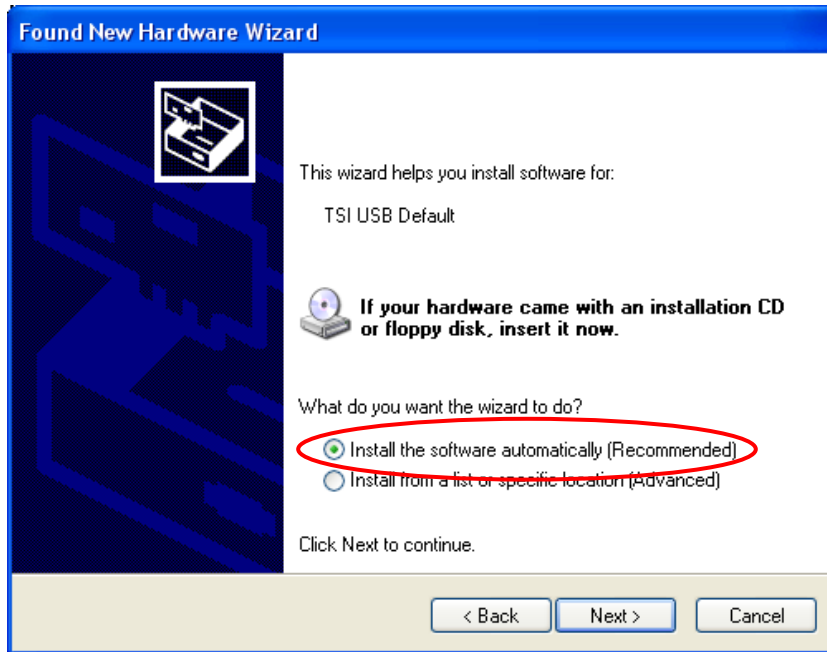

Figure 14
5. Select **Install the software automatically**, the recommended action. Then select the **Next >** button (Figure 14).